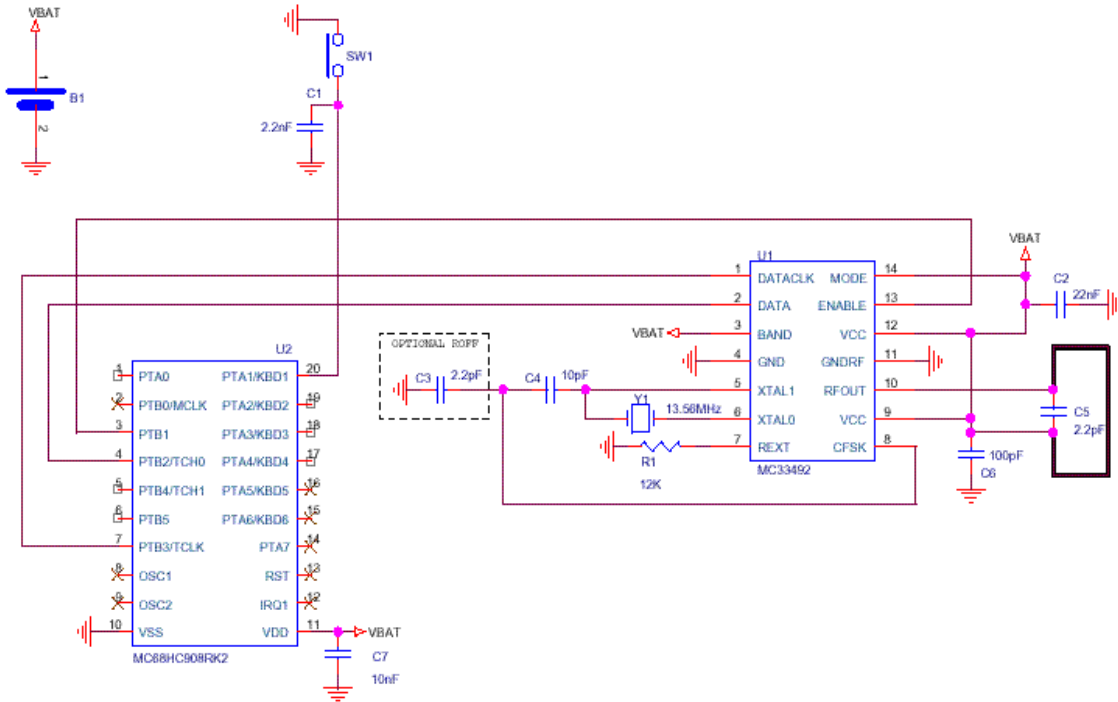

Figure 14. Application Schematic for FSK Modulation, Serial Configuration, 434 MHz Frequency Band
Figure 14 shows a complete application schematic using a MC68HC908RK2 microcontroller. FSK modulation is selected, $f_{\text{carrier}} = 433.92$ MHz. C_1 capacitor can be removed if switch debounce is done by software.
- the external load capacitors (C3, C4 as defined in Figure 14 and Table 9)